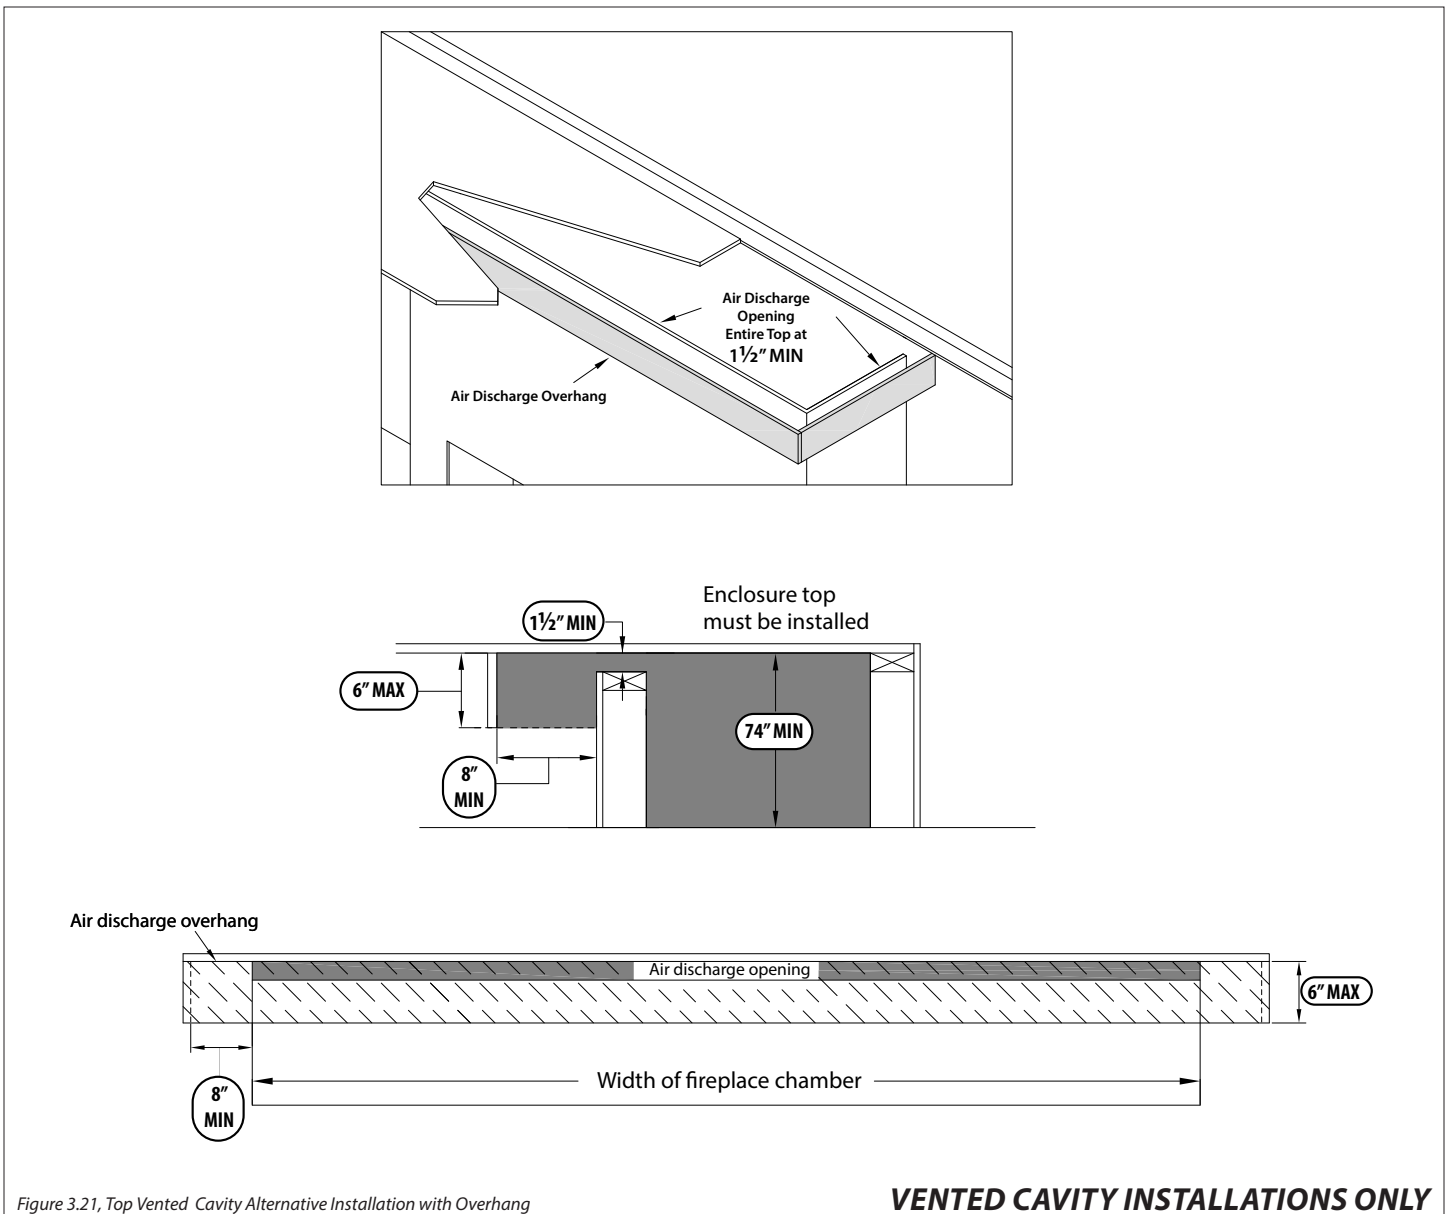

Figure 3.21, Top Vented Cavity Alternative Installation with Overhang
- Figure 3.21 on the following page shows an alternative installation for the top vented cavity option with an air discharge overhang in front of the air discharge opening. This installation method can provide a means to visually hide the air discharge opening.